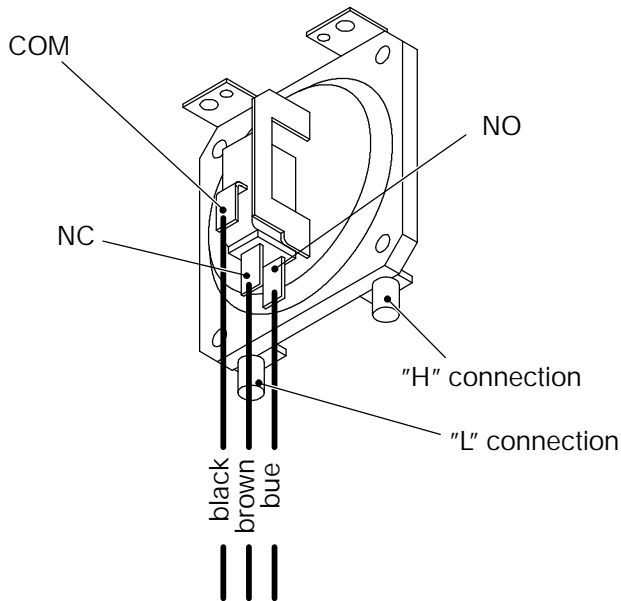
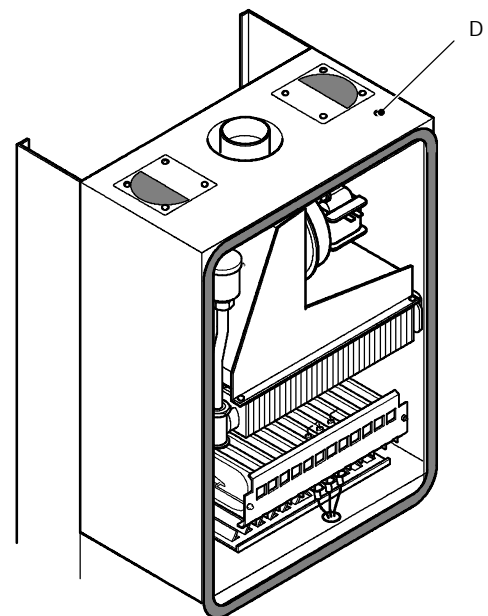

fig. 80c
fig. 82
- 4 Unscrew the screw *D* (two for the pressure switch of fig. 80c) which holds the air pressure switch to the frame (fig. 82);